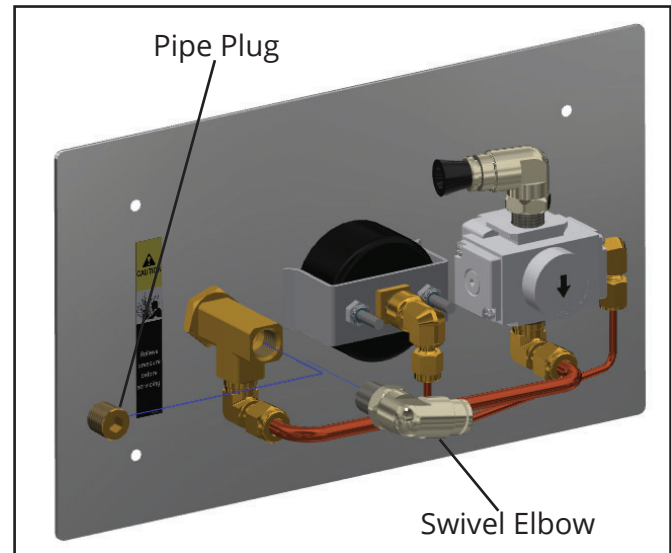

Figure 6
4. If remote outlet is used, remove pipe plug from outlet tee fitting and install provided 1/4" MNPT male X 3/8" OD tube swivel elbow into outlet tee fitting (Figure 6).